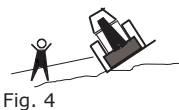

Fig. 4
- **CAUTION:** tip-over risk (Figure 4) when winching on rough terrain or exceeding the maximum admissible pull angle.